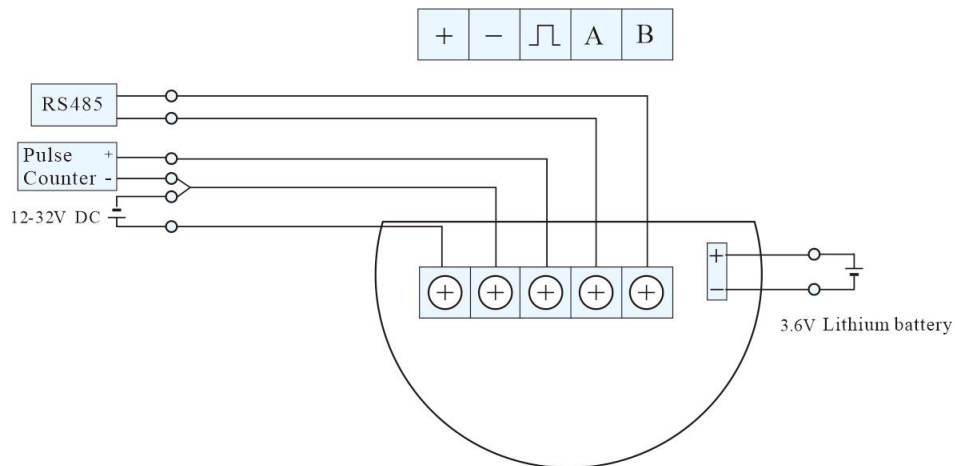

Fig.17
3. Dual power supply+485 communication+pulse output (RS485 type) (Fig.17)